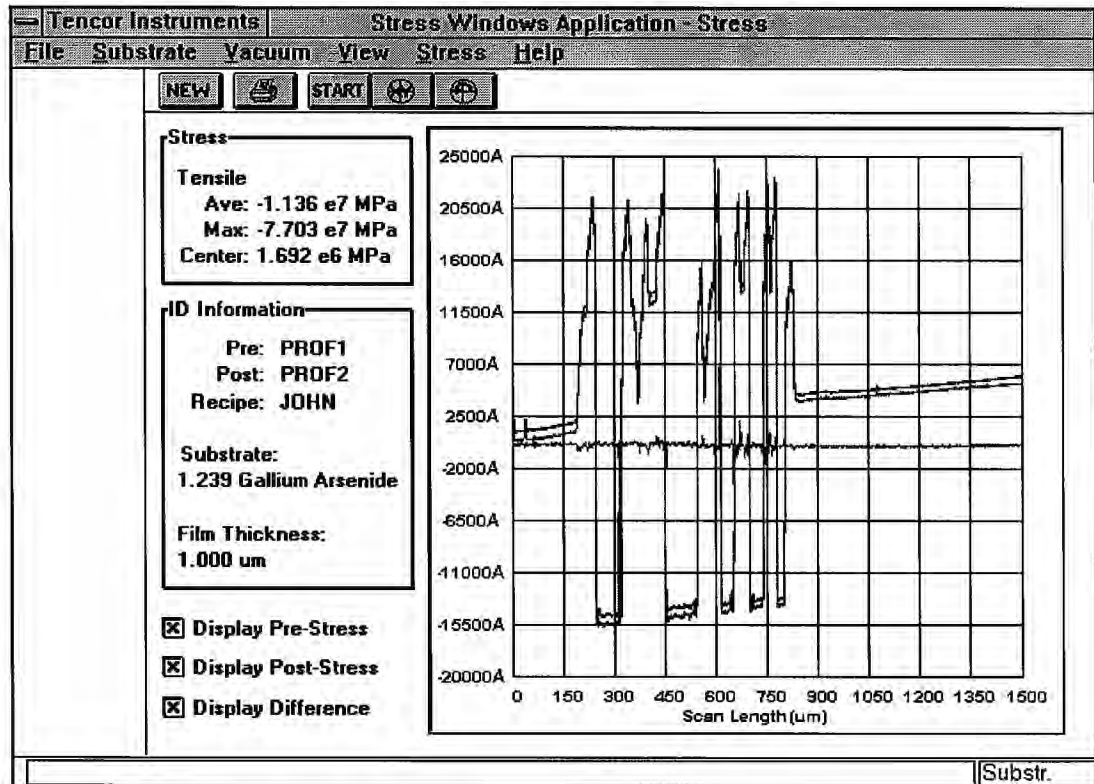

Figure 11-14 Stress Results Display
- After selecting the two scans, select CALCULATE to calculate and view the results (Figure 11-14).
This screen also displays the results of the calculation (Figure 11-14) as well as the IDs of the prestress and poststress scans and the stress recipe name used.